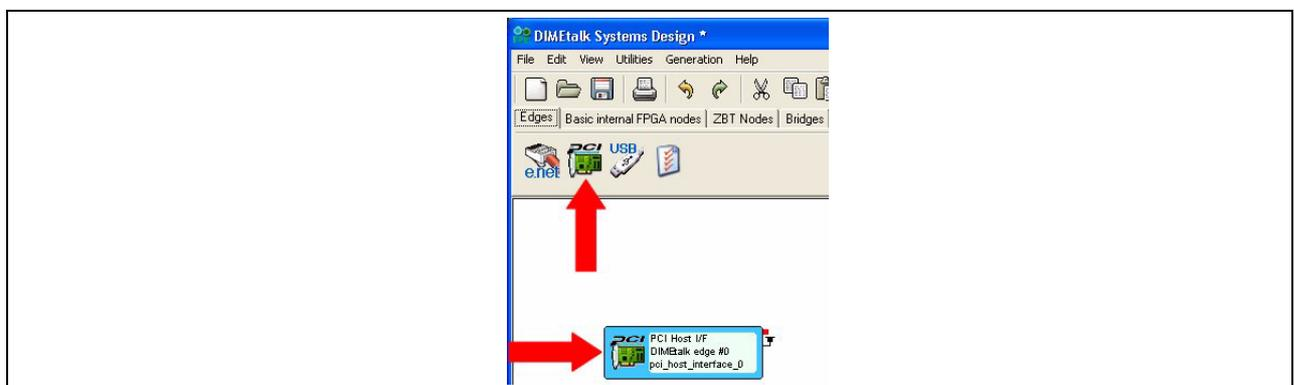

Figure 26: Add a Component
2. Click in the design space to place the component down. The component is then displayed (shown in Figure 26).